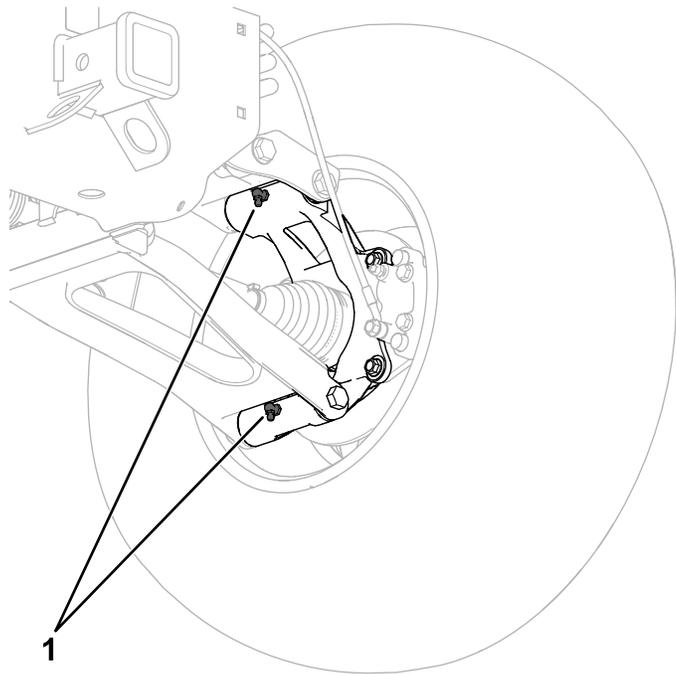

Figure 26
- **Rear-knuckle pivots (4)**; refer to Figure 26